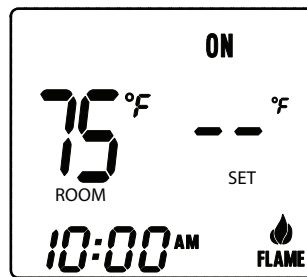

Fig. 5 Manual ON
- Step 1:** Press the MODE button one time to manually turn ON the appliance (Fig. 5).